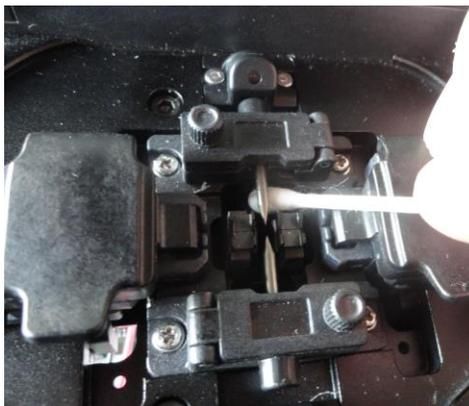

Fig4—7 Cleaning Objective Lenses
- 1) Clean the mirror surface with an alcohol-soaked thin cotton swab as shown in Fig.4—4. Remove excess alcohol from the mirror surface with a clean dry swab.